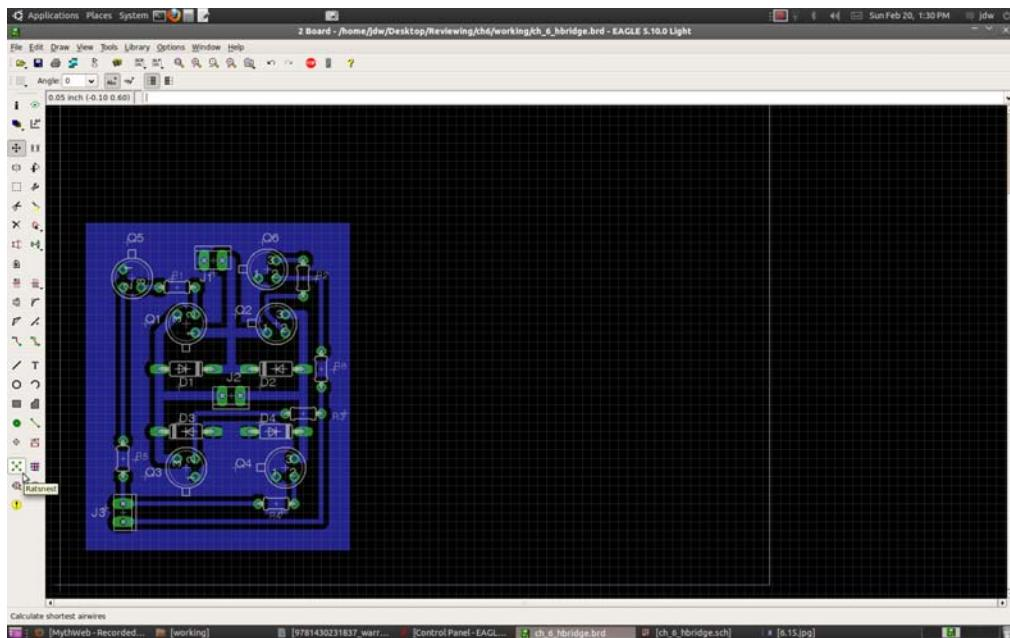

Figure 6-14. Using the Ratsnest tool fills in the Ground plane.
8. **Filling in the Ground plane:** After the polygon is named and the clearances set, click the Ratsnest button once again to fill in the Ground plane (see Figure 6-14). This fills in all empty space with a large copper pad that is connected to all Ground connections in the circuit. Using a Ground plane is not always necessary, but it keeps you from having to remove an excess amount of copper from the board when etching, resulting in a much quicker etching time. You can play with the clearances if you want to add more space between the pads and traces. I selected 30mm clearances because it works every time; I have had trouble with the default 8mm clearance that tends to make the gaps so small that solder pools across them onto other traces, causing difficulties while assembling.